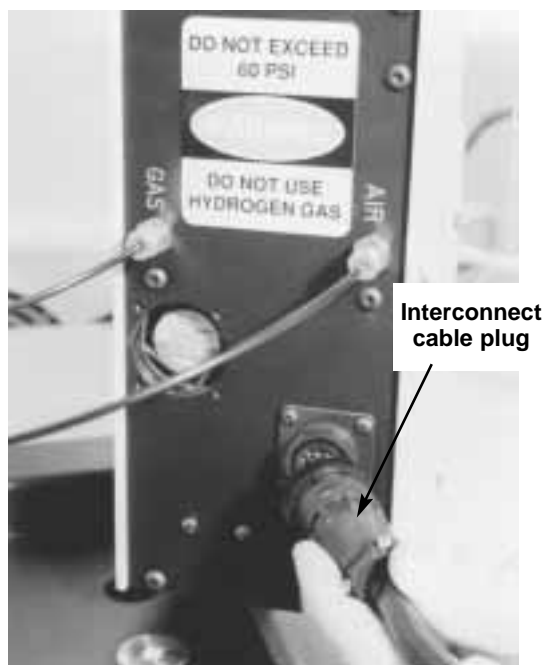

Fig 3.47 Installation of the interconnect cable (782010)
20. Plug the interconnect cable (Part #782010) into the appropriate plug on the back of the desorption unit. The cable is reversible so either end can be plugged into the unit. See **Figure 3.47**.